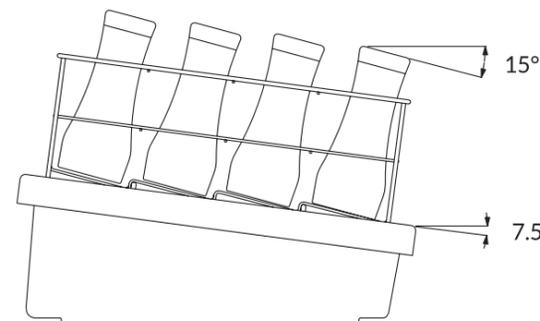

FIG 2
- ✓ Ensure the correct orientation of compartmented baskets. The glasses should be tilted forward to the front of the Airack (Fig 2).